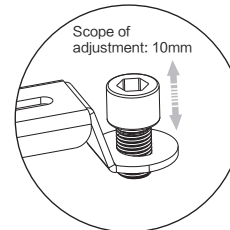

figure 16
4. Rotate the adjustable nuts (4-3) for adjusting the height of installation arms (4-2) if the installation holes are not at the same level as figure 16